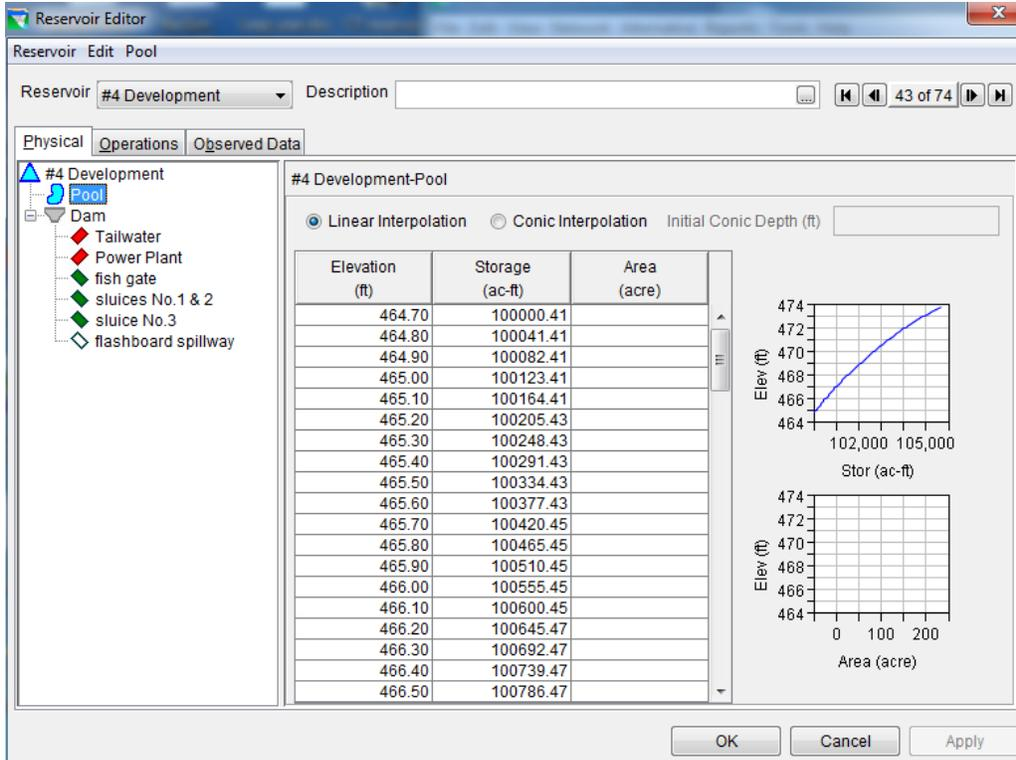
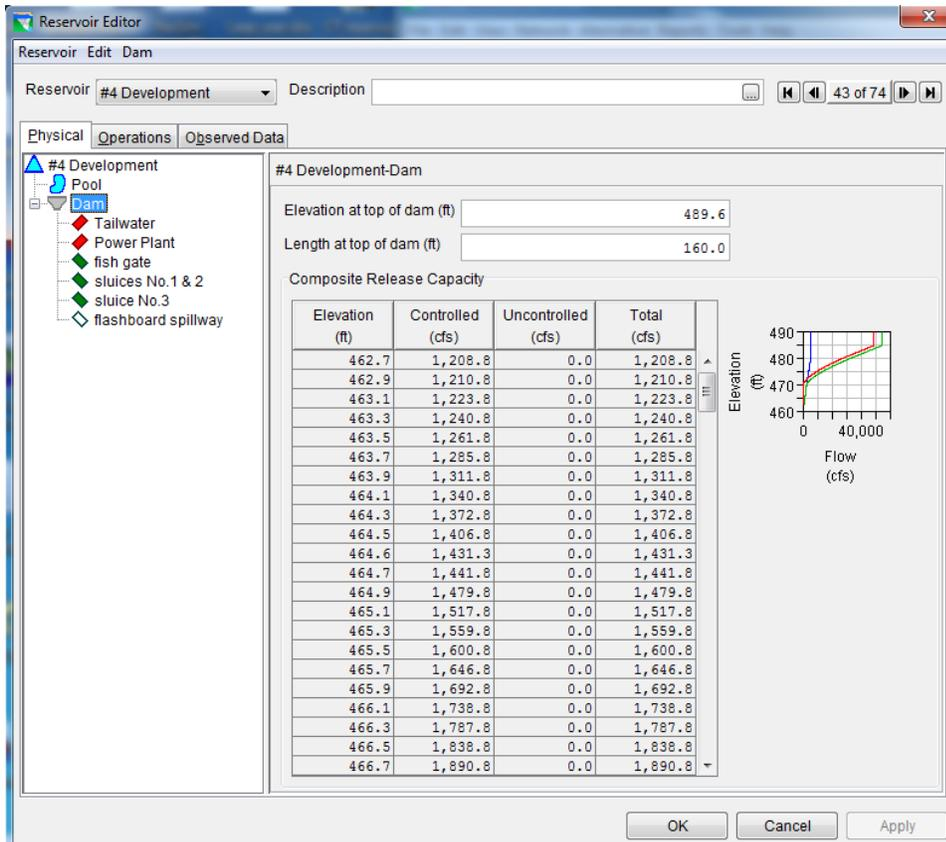

Figure 3: Reservoir Editor: Physical Tab -- Pool
Figure 4: Reservoir Editor: Physical Tab -- Dam
The physical characteristics of the reservoir are separated between the Pool and the Dam in the HEC-ResSim model. The elevation-storage-area defines the pool as shown in Figure 332. The dam consists of five types of outlets: (1) controlled fish gate, (2) controlled sluice No.1&2, (3) controlled sluice No.3, (4) uncontrolled flashboard spillway, and (5) power plant as shown in Figure 4.